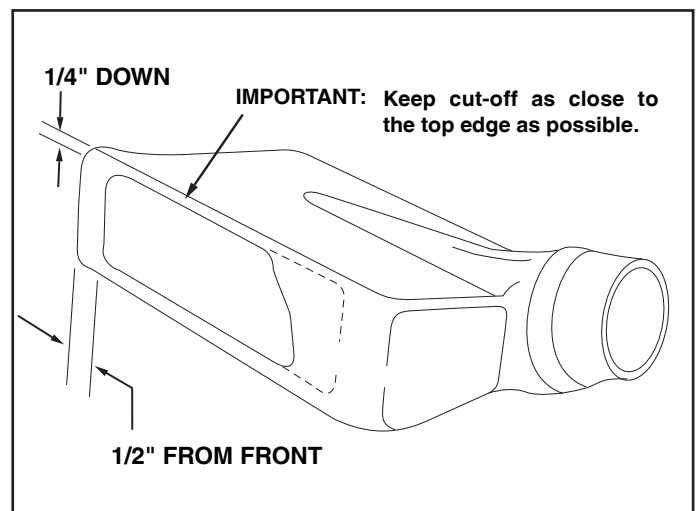

FIGURE 13
3. Tape the template to the face of the adapter, about 1/2" from front and 1/4" down from top for deeper decks. For shallow decks, position template low enough that adapter will not extend below bottom of deck. Mark outline of template on face of adapter using white crayon, nail or scribe. Drill a starting hole inside the outline, then use a saber saw or key hole saw to cut out the opening. See figure 13.